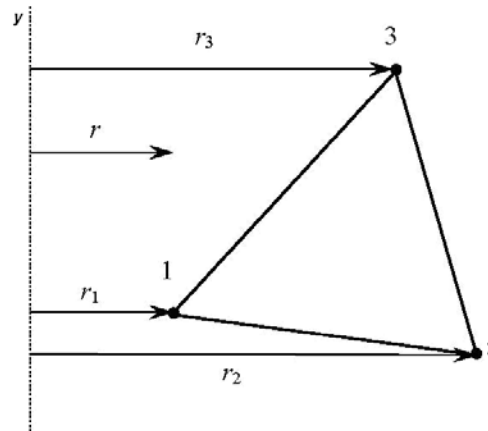

Figure 2
- 6.a) Evaluate the axisymmetric stiffness matrix \mathbf{K} of the triangular element shown in the figure 2. Consider the coordinates of nodes as 1 (2, 1), 2 (4, 0), and 3 (3, 2). Also assume $E = 2.6 \text{ GPa}$ and $\nu = 0.2$.